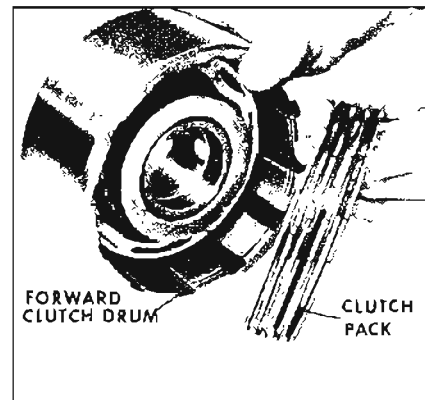

Figure 5-217
6. Remove clutch pack from forward clutch drum. See Figure 5-217.